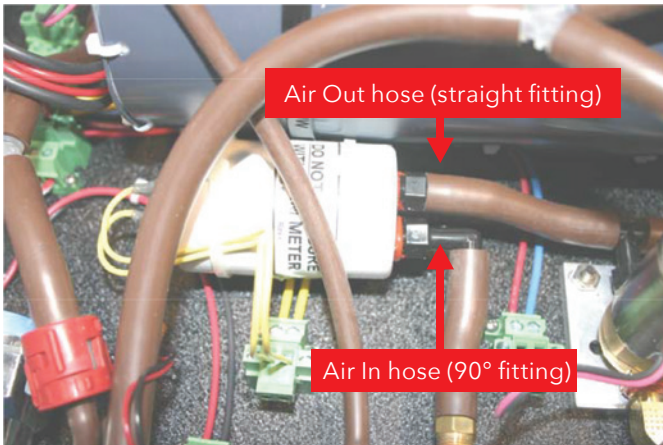

Figure 4. THE TWO HUMIDITY SENSOR AIR HOSES.
7. Using a tubing wrench or vacuum tubing pliers, carefully remove the two air hoses connected to the existing humidity sensor. Try to not move the fittings or break the seal. Refer to Figure 4.